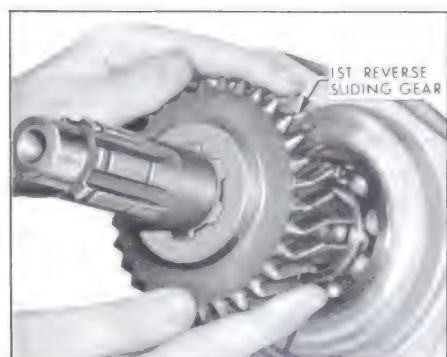

Figure 4-94—Installing 1st-Reverse Sliding Gear
4. Install 1st-reverse sliding gear on mainshaft. See Figure 4-94.